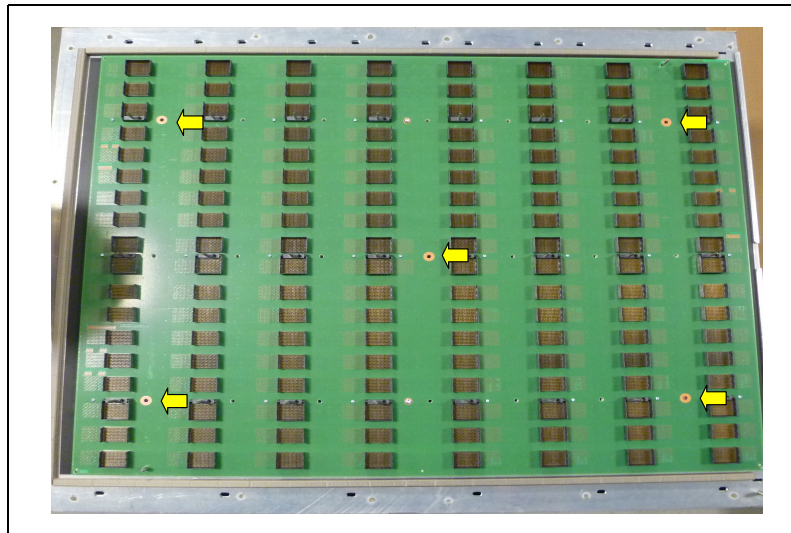

Figure 4-21 Midplane mounting screw locations
14. Remove the five 7 M4 screws that fasten the midplane to the chassis with a 7 mm driver. See Figure 4-21.